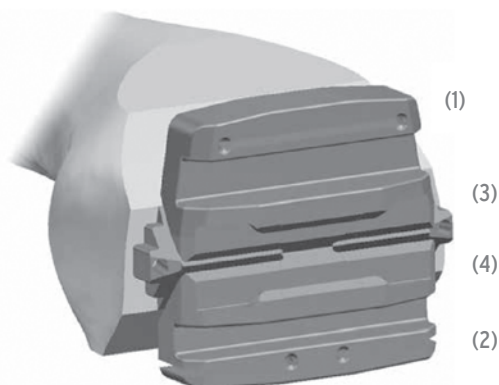

FIGURE 11
The resection is then performed in this recommended order: anterior cut (1), then the posterior cut (2) followed by the posterior chamfer (3) and ending with the anterior chamfer (4). | **FIGURE 11**